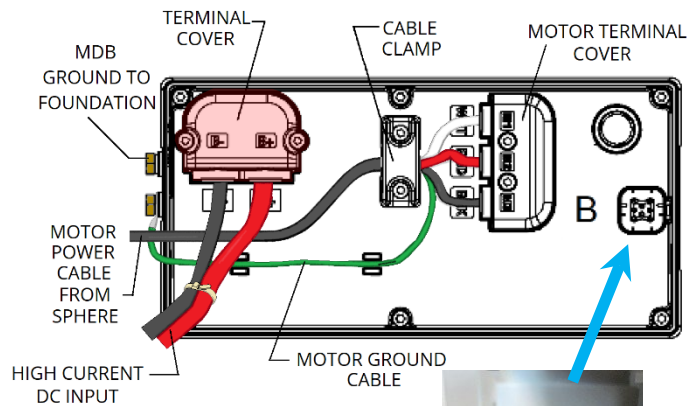

Figure 46: DC MDB battery terminals & harness connector
- x. **REMOVE** battery terminal cover of MDB with T20 bit. (fig. 46)
- xv. **ENSURE** wire harness connected to MDB. (fig. 46)